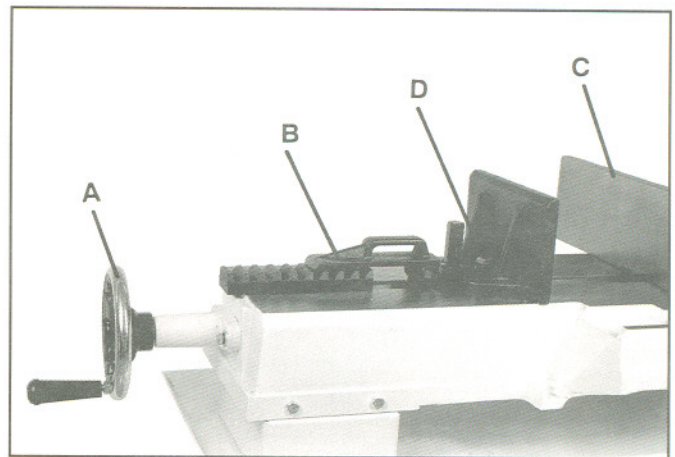

Fig. 11
1. Turn vise handwheel (A - Fig. 11) 1/2 turn counter-clockwise.
2. Move rack block (B - Fig. 11) to desired location by sliding along the bed. Place the rack block onto the rack.
1. Loosen bolts and move vise jaw (C-Fig11) to desired location.
3. Adjust the movable vise parallel to the fixed vise by loosening bolt (D-Fig.11) adjusting to parallel and tightening bolt.